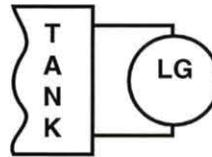

Figure 45. Level Sensing Element Symbol
9. Determine which type of level sensing element symbol is shown in figure 45.